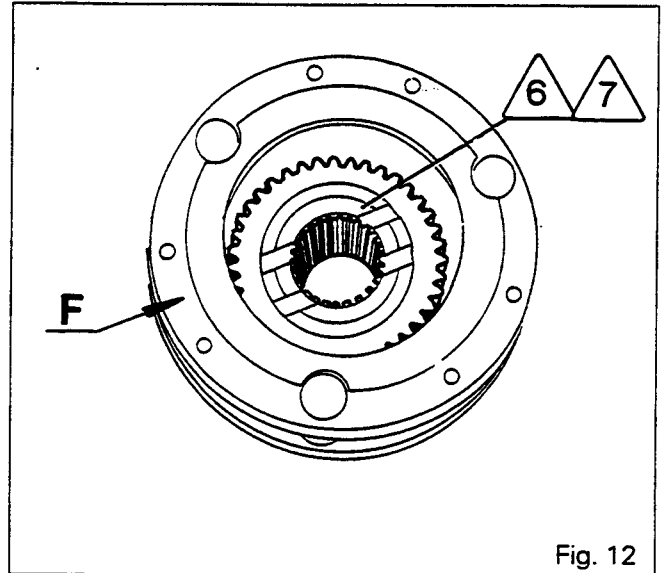
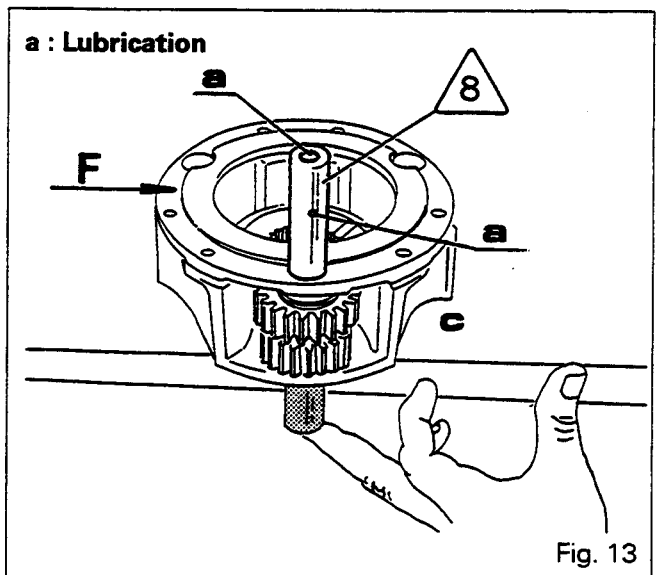

Fig. 12
Fig. 13
32. Fit the 39 tooth sun gear /6\ into the planetary carrier cover (Fig.12).
33. Fit the 36 tooth sun gear /7\ into the planetary carrier cover (Fig.12).
34. Fit the 39 tooth sun gear /6\ into the planetary carrier cover (Fig.12).
N.B. : In all versions, fit the gear so that the lubricating grooves in it are facing towards face F of the planetary carrier cover (Fig.12).
35. Fit a needle-roller bearing (11), a spacer (14) and a needle-roller bearing (16) into a planetary gear /12\.
36. Fit an assembled planetary gear into the cover, with the following gears closer to face F in the respective cases (Fig.13) :
37. Fit washers (10) and (17).
38. Line up the planetary gear and washers with a locating rod made up locally : diameter = 16 mm, length = 80 mm (Fig.13).
The oilway opening onto the endface of spindle /8\ must face towards face F of the planetary carrier cover (Fig.13).